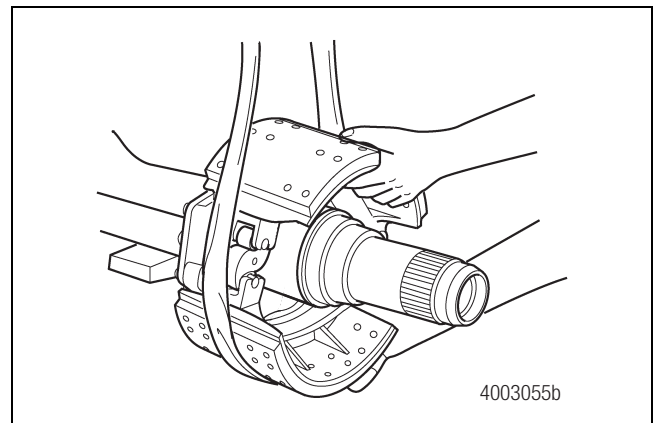

Figure 5.16
- Carefully rotate and install the complete brake assembly into position. Figure 5.16.